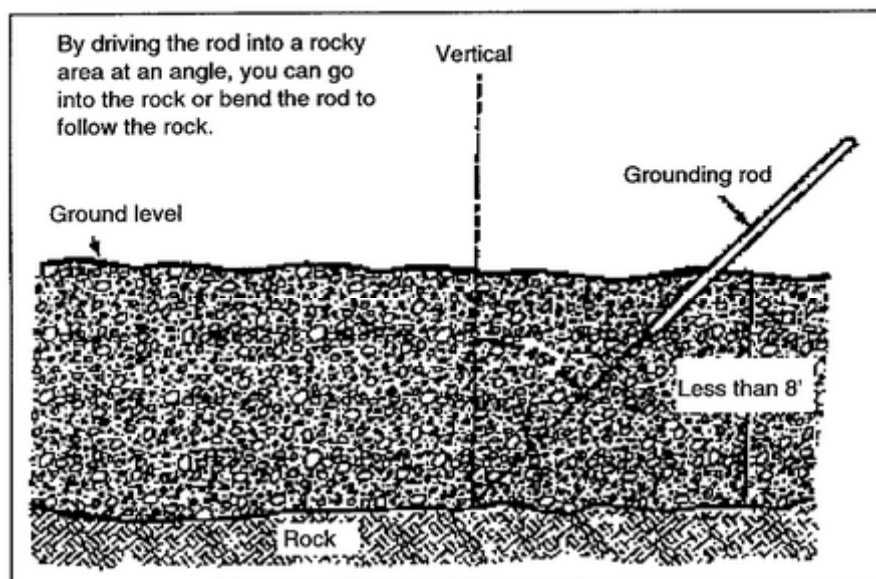

Figure 1-8. Grounding rod driven at an angle
a. If rock is hit at less than 8 feet, the grounding rod can be driven at an angle but the angle cannot exceed 45 degrees (Figure 1-8).